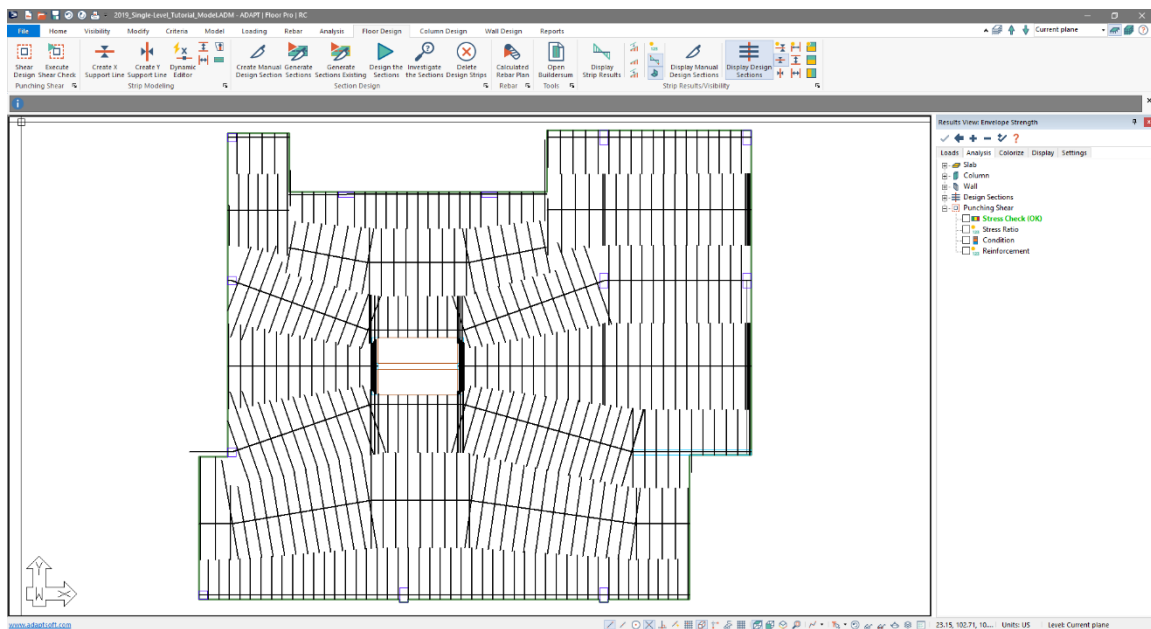

Figure 7-12
- Go to *Floor Design* → *Strip Results/Visibility* and click on the *Display Design Section* icon. The user's screen should now be similar to **FIGURE 7-12**